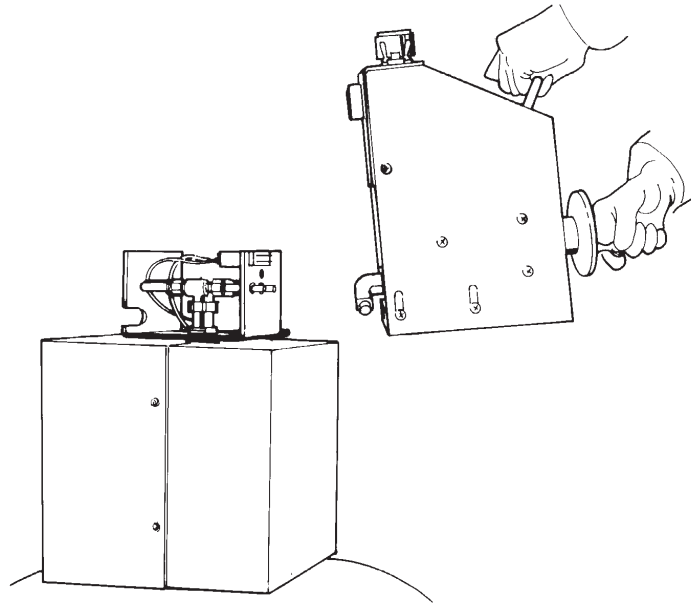

Figure 3.1
3. Remove the head assembly from the LNCA by turning the removal knob counter-clockwise and then sliding the head assembly off the guides. See Figure 3.1 on the next page.